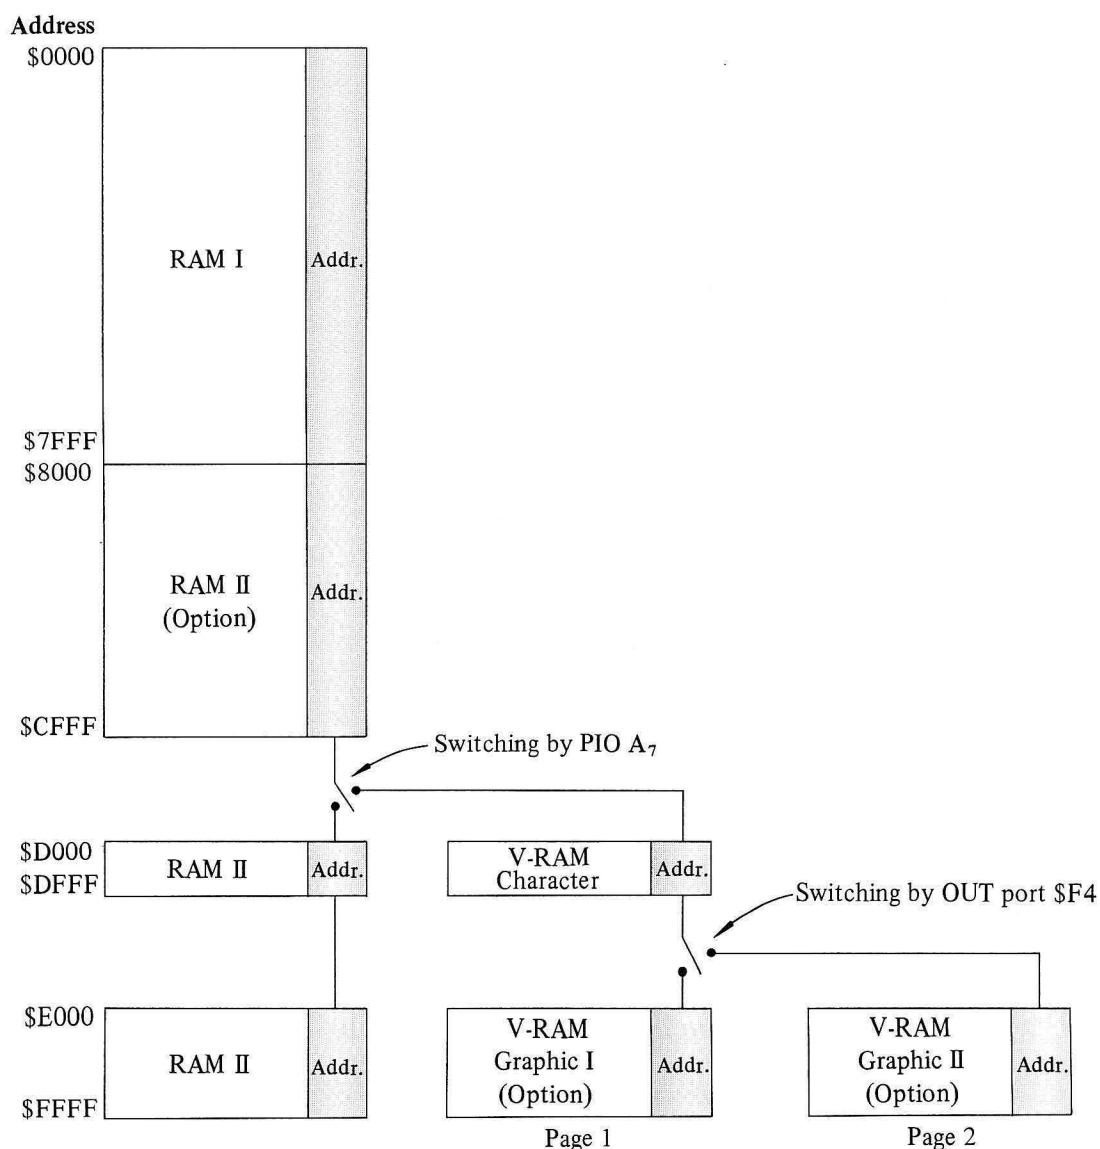

FIGURE 4.4 Switching of main memory and V-RAM (1)
This changeover is effected by A_7 of PIO. When two pages of graphic V-RAM are used, selection of graphic pages (I) and (II) is made by OUT port \$F4. This operation is shown in FIGURE 4.4.